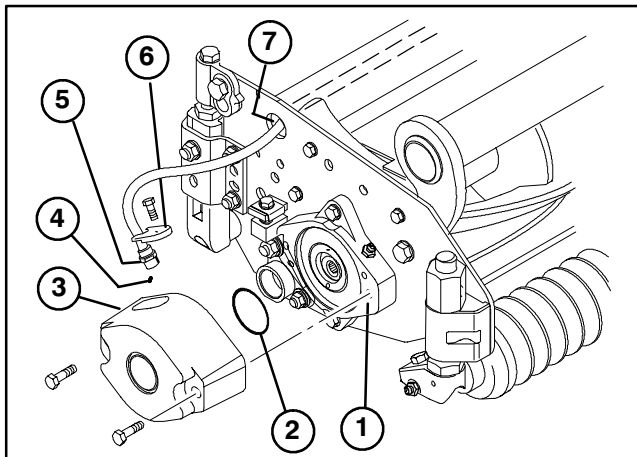

Figure 3
3. Lubricate and install a large O–ring into bearing housing groove on each end of cutting unit (Fig. 3 & 5).
4. Install a counter weight onto appropriate end of each cutting unit with capscrews provided (Fig. 3).
15. Install small O–ring onto speed sensor and insert sensor into hole in counterweight (Fig. 3).
16. Secure sensor to counterweight with a sensor holder and a M6 x 20 mm capscrew (Fig. 3).